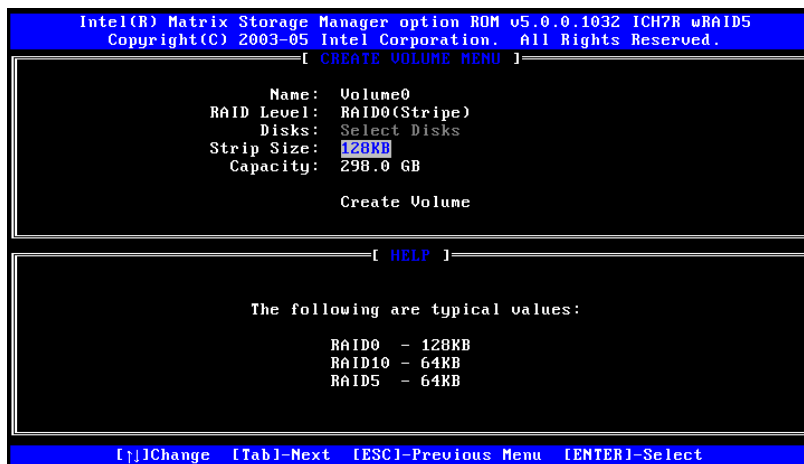

Figure F-4: Select the Stripe Size
Step 4: Select the Stripe Size. Select a stripe size from the list. See Figure F-4.